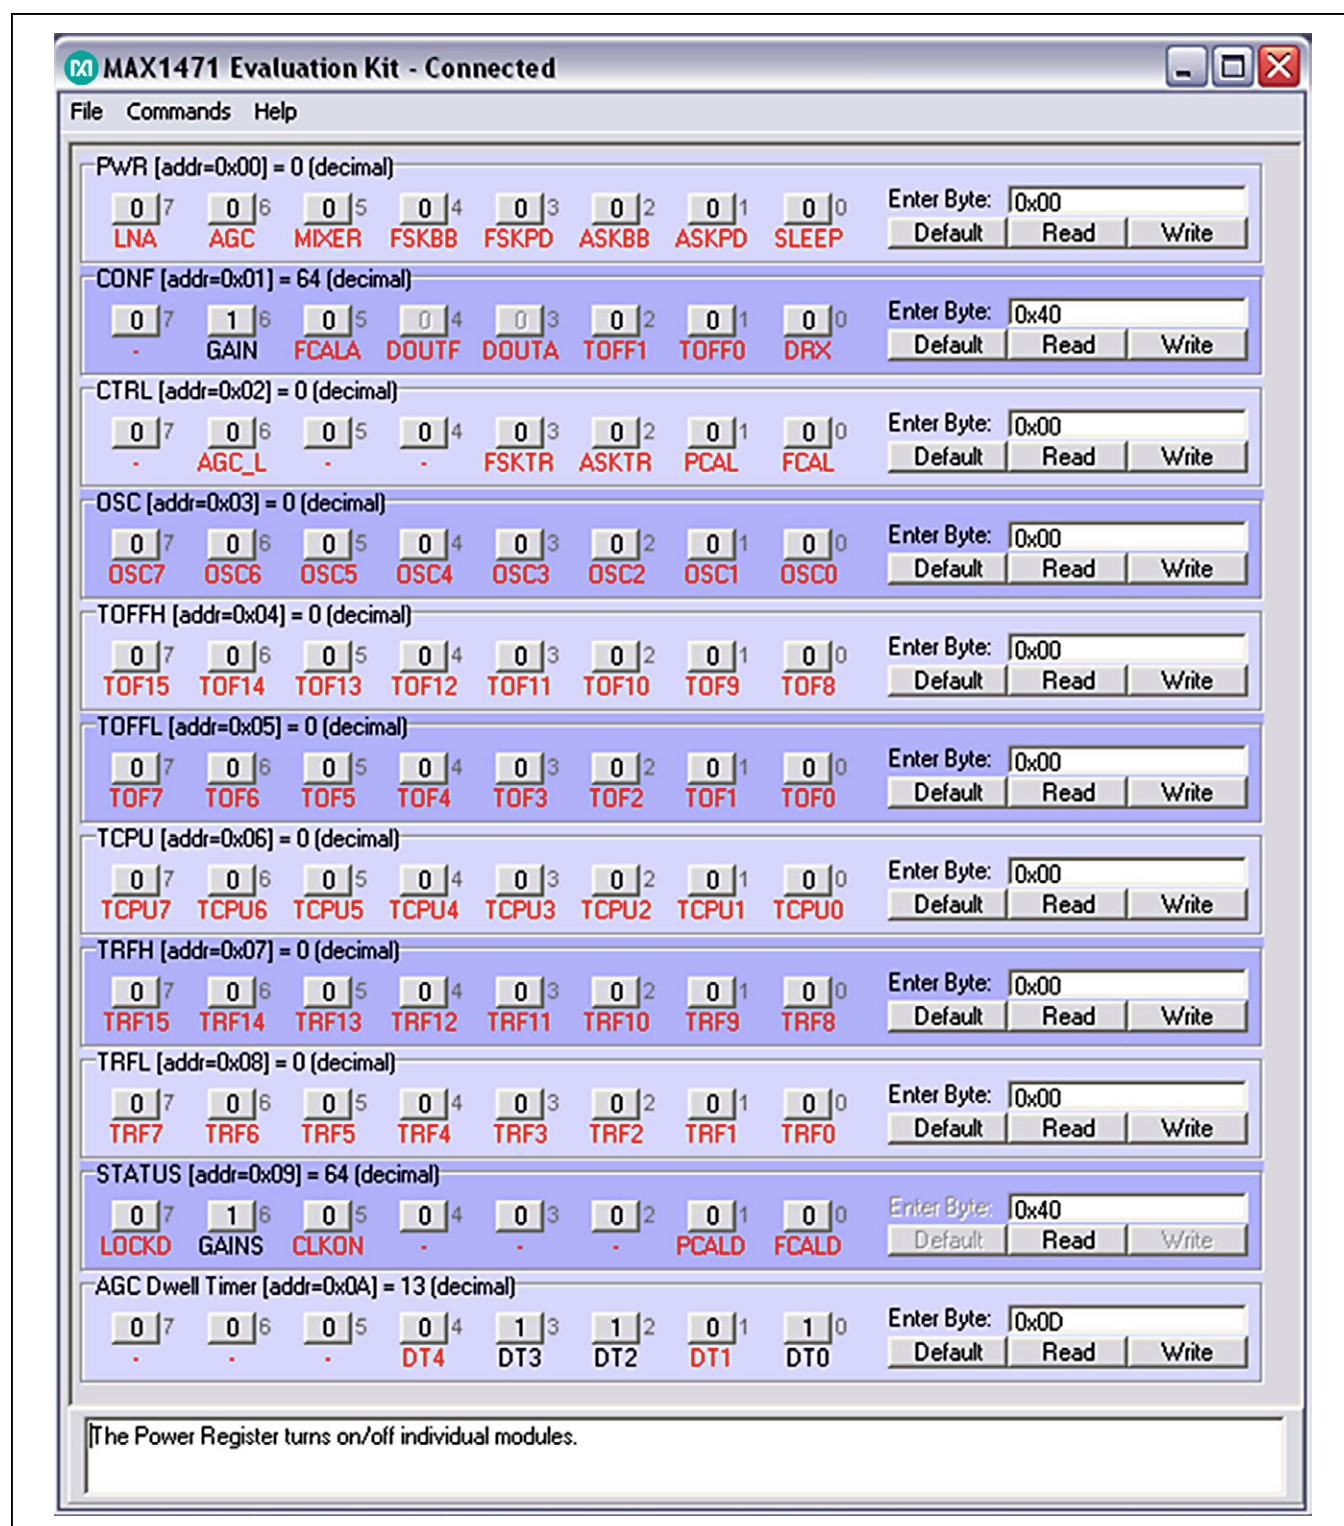

Figure 1. Control Display from MAX1471 Software (Display Immediately After Computer is Connected)
- 6) Start the MAX1471 EVKit software. A display showing the contents of the control registers in the MAX1471 will appear. In a few seconds, the heading at the top should change from "disconnected" to "connected", and the display should look like the display shown in Figure 1.